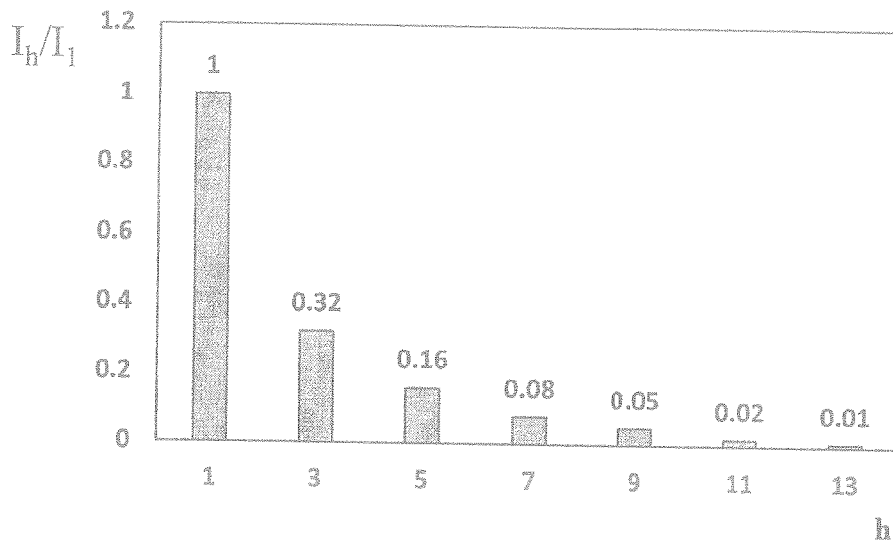

Figure Q4(b).
- b) A 40.0 kVA three-phase balanced, Y connected, non-linear load is connected to the secondary side of a three phase 11 kV/415 V,  $\Delta/Y$ , 50 kVA, 50 Hz transformer. The short circuit reactance of the transformer is  $0.5 \Omega$ , whereas its short circuit resistance can be assumed zero. The load is operating at 0.8 lagging power factor. The rms value of the current drawn from the grid by the load is 57 A. The harmonic spectrum of the load current is shown in Figure Q4(b).